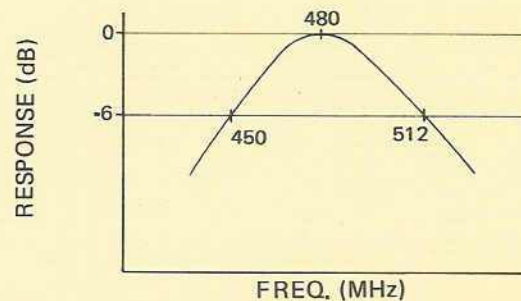

FIGURE 14.
Step 3: Adjust TC-1 for maximum output and best curve symmetry as shown in Figure 14.